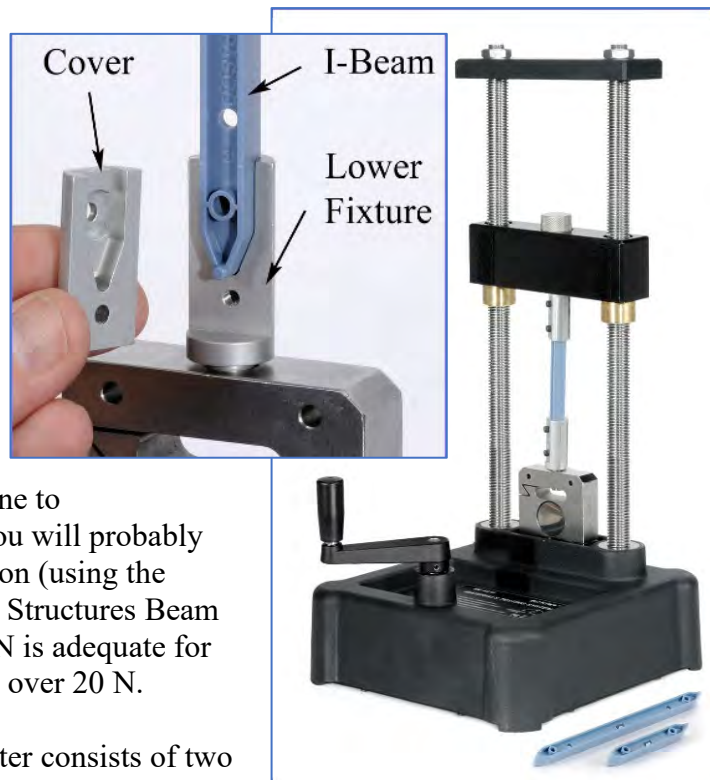

Figure 1: Compressing I-beams
2. The ME-8242 Structures Beam Adapter consists of two major parts: The upper fixture with the longer thread sticks up through the cross-head and is held in place by the knurled cap nut. The lower fixture screws directly into the load cell as shown in the inset to Figure 1. Do NOT install a beam at this time!
2. For both beams, use Eqn. (3) to calculate the Moment of Inertia for the direction in which the beam will buckle. For the I-beam, you can assume that the cross-section is composed of three rectangles.
3. Install the T4 I-beam, and secure the covers on both fixtures using the cap screws as shown in Figure 1.
4. With the beam installed, measure the distance between the top of the lower fixture to the bottom of the upper fixture. This is the effective length (L) of the beam: The amount that is free to bend.